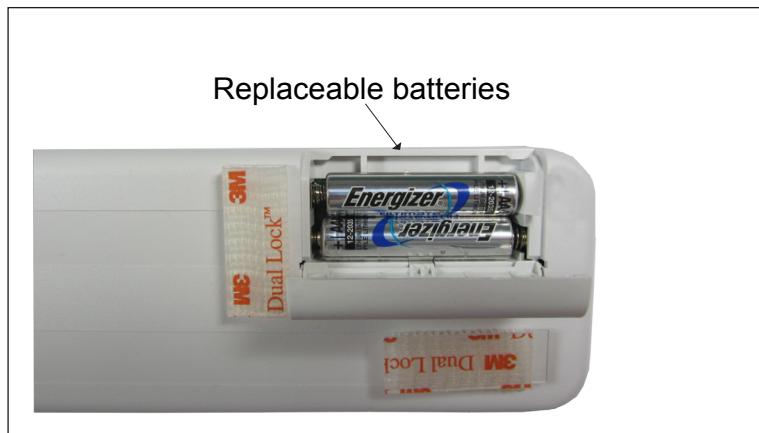

Figure 7 – Replaceable batteries
2. Remove the old batteries and replace them with lithium AAA batteries according to the diagram on the inside of the battery compartment (Figure 7).